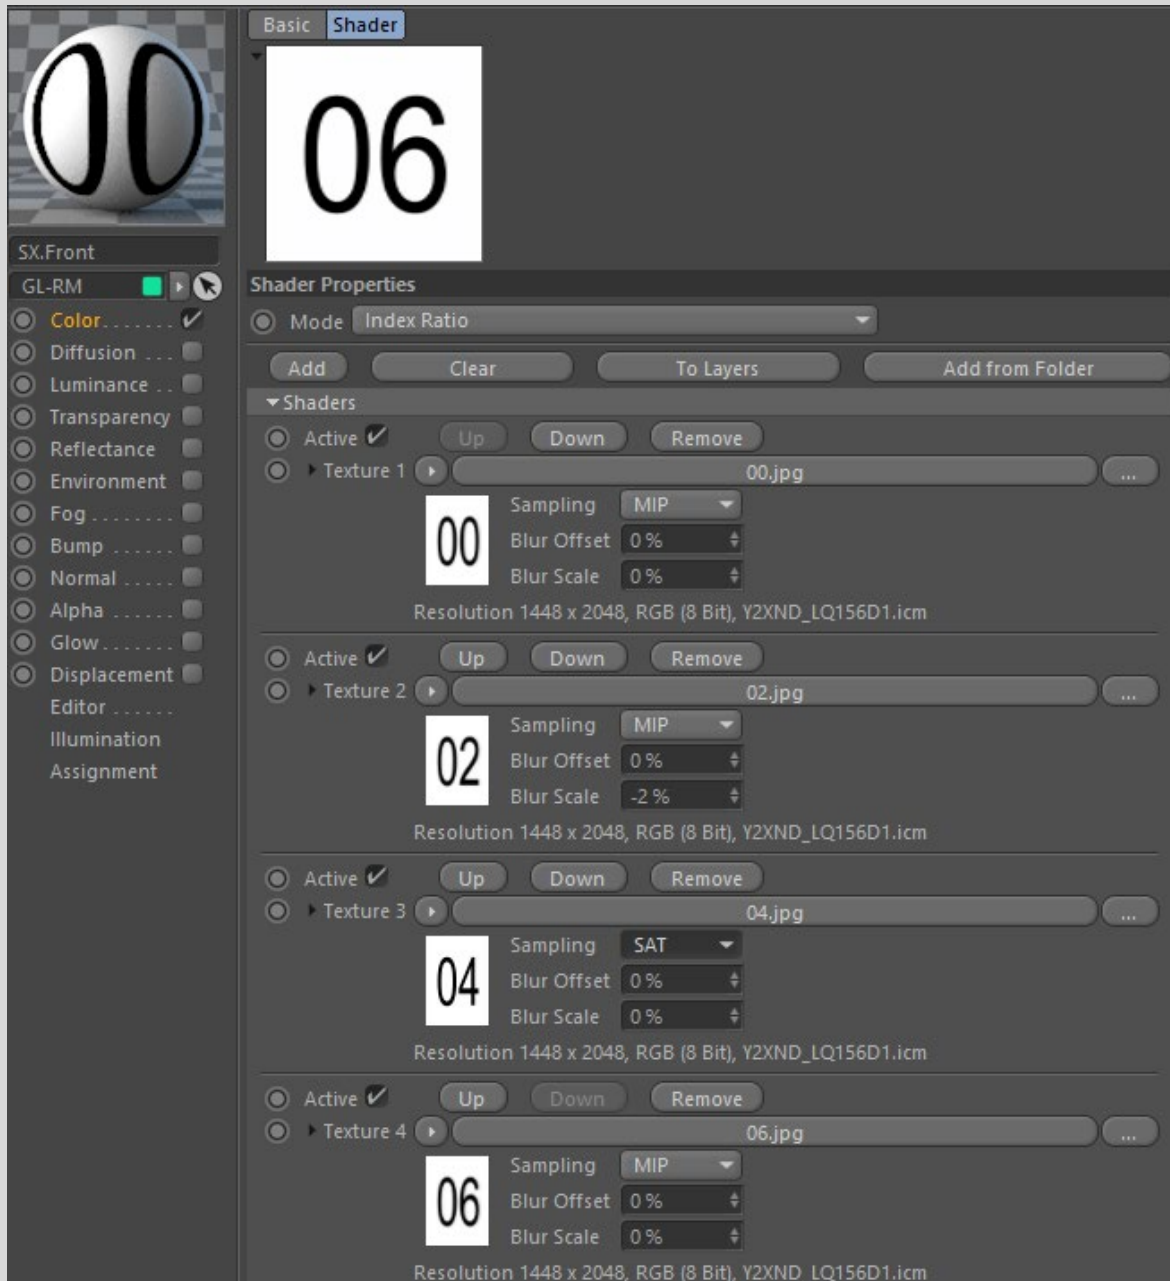

fig.25 – multi-shader example
- *SX.Front* = 0,2,4,6 (fig.25).